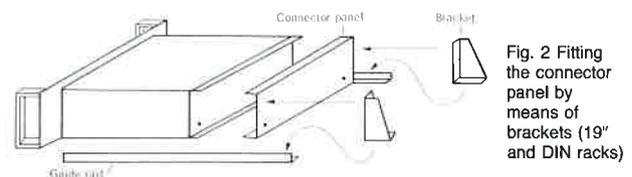

Fig. 2 Fitting the connector panel by means of brackets (19" and DIN racks)
**Brackets** are used to secure the appropriate connection panel (specify equipment type when ordering) for self-engaging connection (Fig. 2).